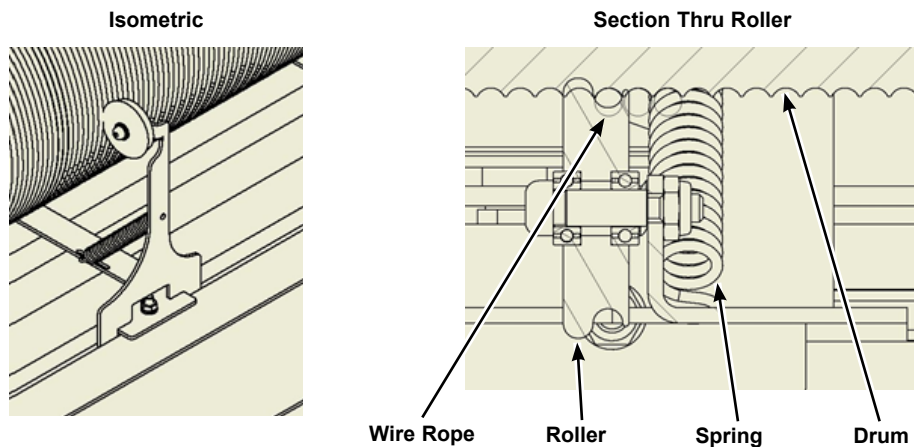

Figure 2: Guide Roller
1. Make sure that there is a roller on every wire rope. Note the position of the rollers in Figure 2.
3. Make sure rollers are aligned with the wire rope as shown in Figure 2.